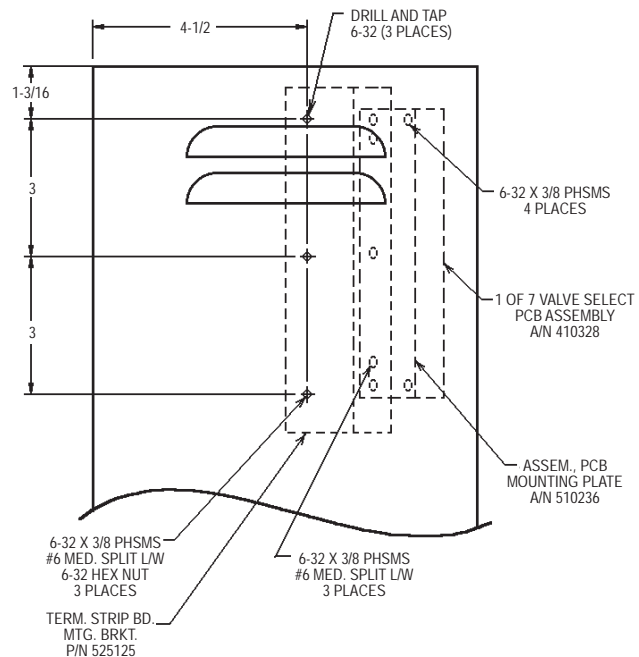

Figure 2. “E” Cabinet mounting detail
3. Drill and tap rear panel per Figure 2, be sure to vacuum or otherwise remove **ALL** metal chips before assembling Terminal Strip Mounting Bracket (P/N 525125) to rear panel using 3 ea. 6-32 x 3/8 PHSMS, Phil Brite, from the outside and 3 ea. #6 Med. Split Lockwashers and 3 ea. 6-32 x 1/4 A/F Hex Nuts on the inside.
5. Mount the 1 of 7 Valve Select PCB (A/N 410328) to bracket (P/N 510236) using four (4) #6-32 x 3/8 PHSMS, Phil, Brite. See Figure 2.